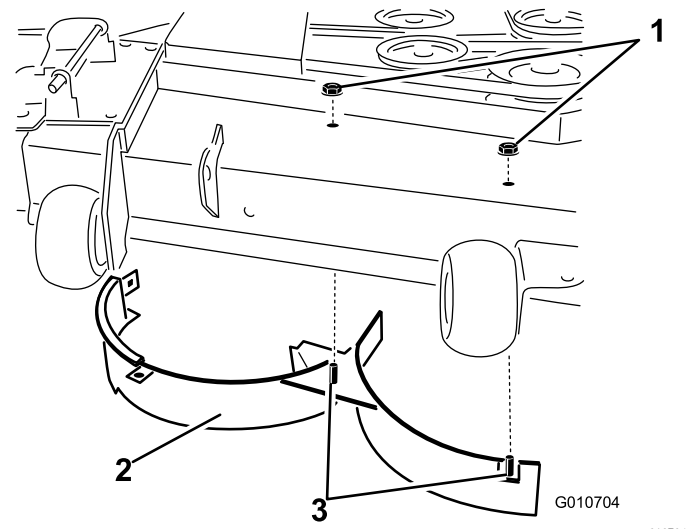

Figure 32
8. Remove the 2 locknuts (5/16 inch) to securing the welded posts of the right baffle to the top of the mower deck at the center and right of center positions (Figure 32).